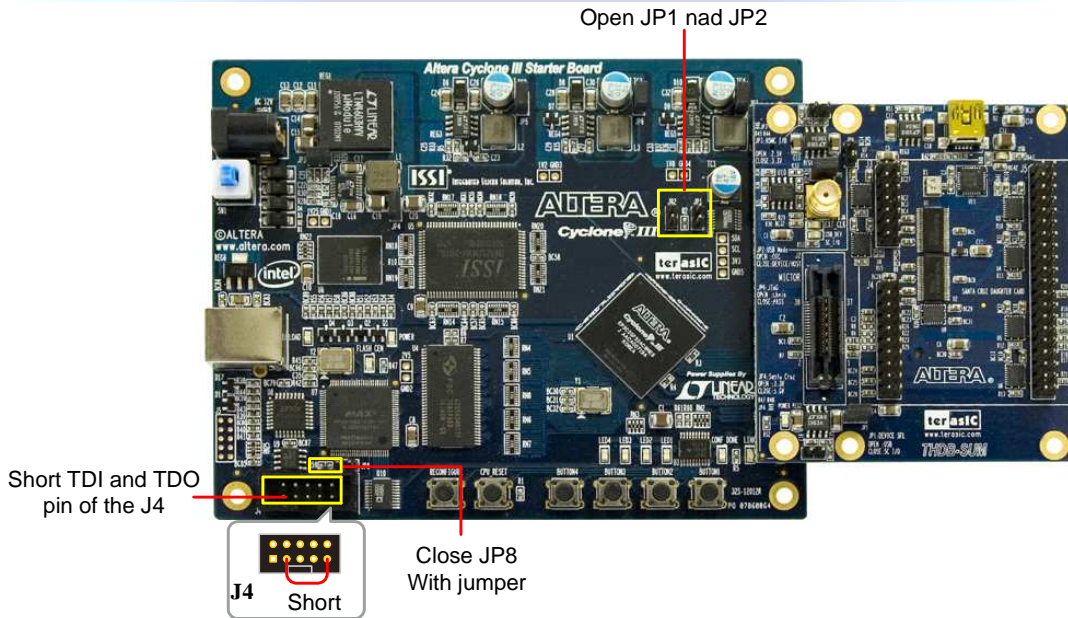

Figure 3.10 The configuration of the Cyclone III start board for controlling the JTAG chain using the Mictor connector
3. Short the TDI and TDO pins of the JTAG connector(J4), as shown in Figure 3.10